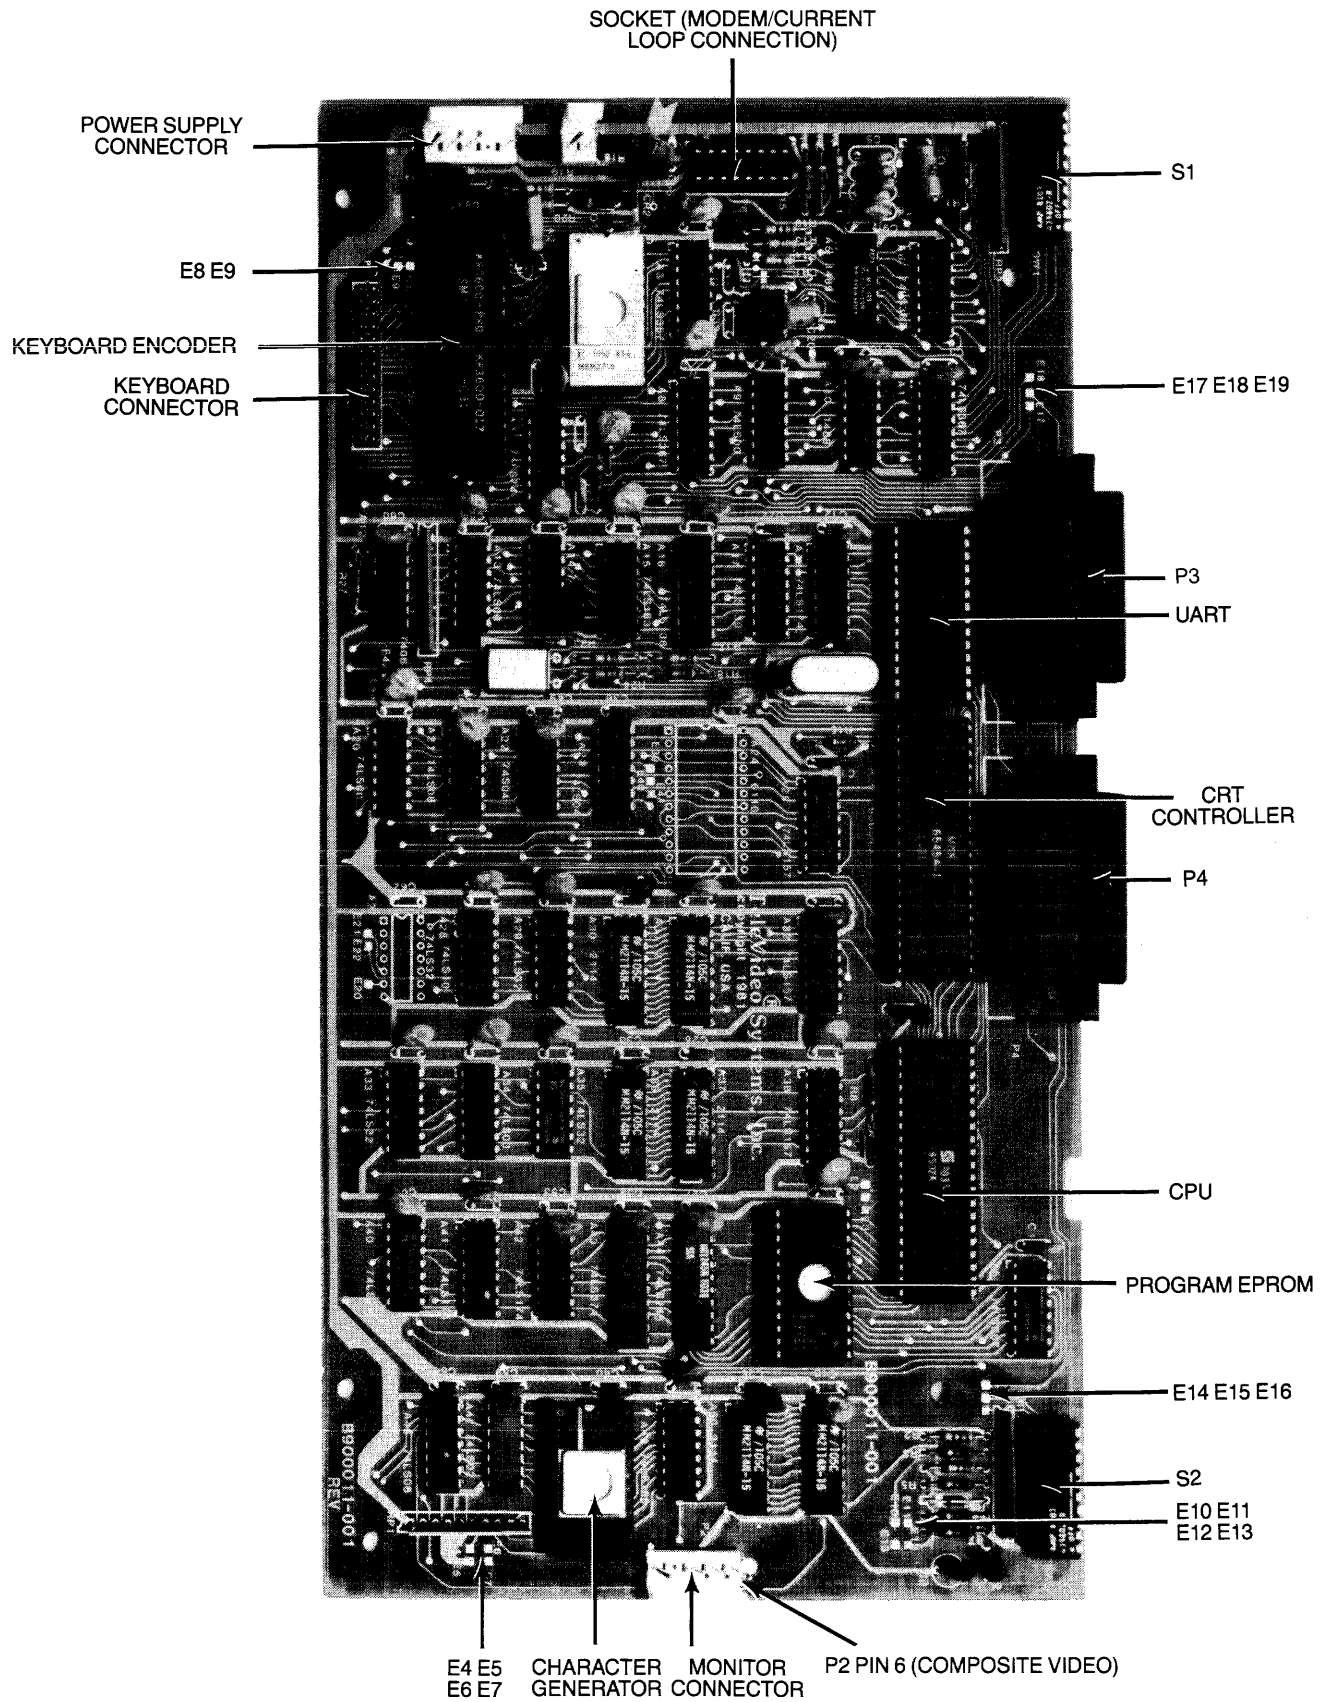

Figure 2-5 Logic Board
**2.4.4.3 Composite Video Jumper Option**—To drive a monitor in addition to or other than the terminal monitor, modify the logic board (Fig. 2-5) by adding an Amphenol BNC connector (Part 227169-5) to the rear of the terminal case. (See Fig. 2-6 for recommended placement.)
(Refer to Figure 2-5)